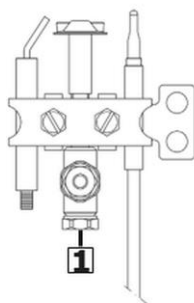

Fig. 8
- Unscrew screw cap **1** (Fig. 8).